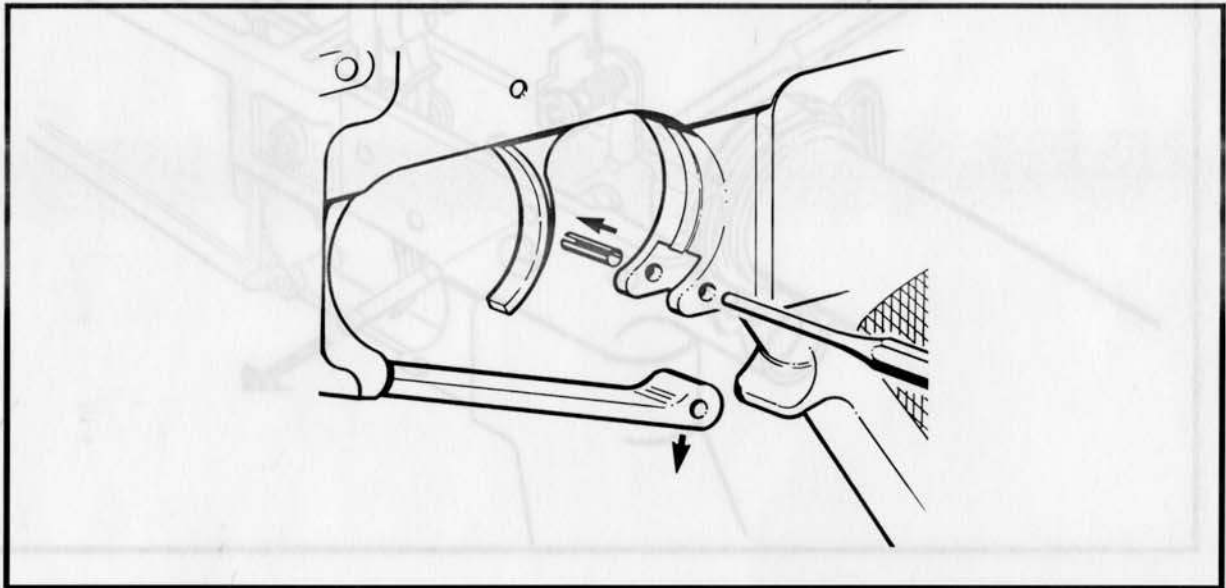

Figure 3-2-44 Removing the Trigger Guard Pivot Pin
- a. Drive out the trigger guard pivot pin with a suitable punch. See Figure 3-2-44;